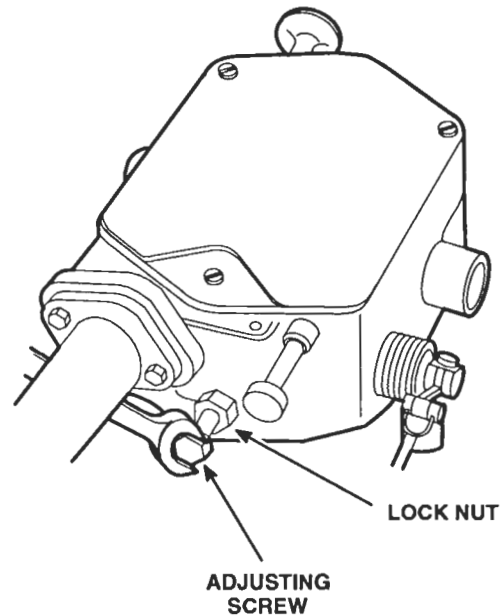

Figure 5. Adjusting Maximum No-Load Speed
3. Turn the maximum speed adjusting screw in lightly until contact is felt with the linkage in the governor (Figure 5.)